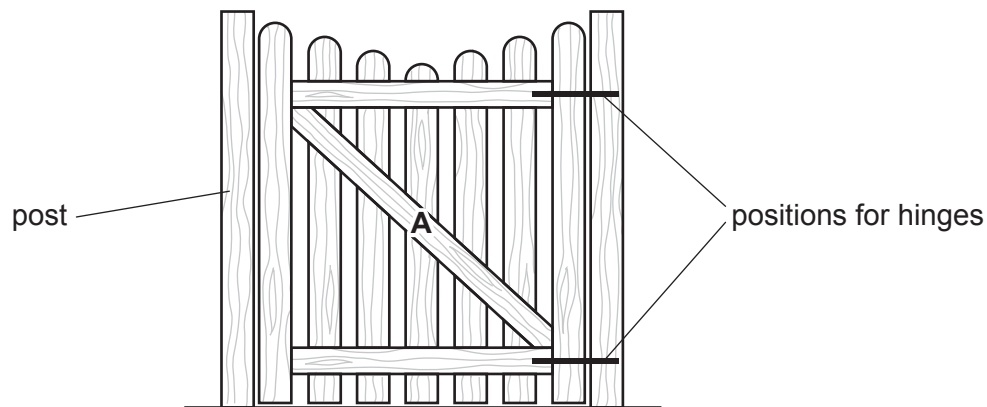

Fig. 6.1
- 6 Fig. 6.1 shows the back of a hardwood gate.